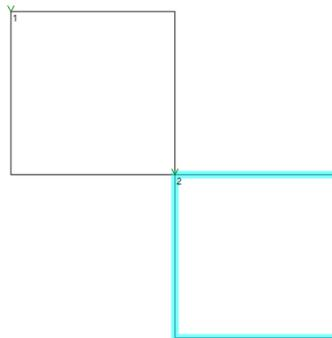

Fig. 5.3.19a Select the Graphic to be Extended
① Select a graphic whose tail needs to meet the condition of intersecting with the edge of another graphic. As shown in Fig. 5.3.19a.